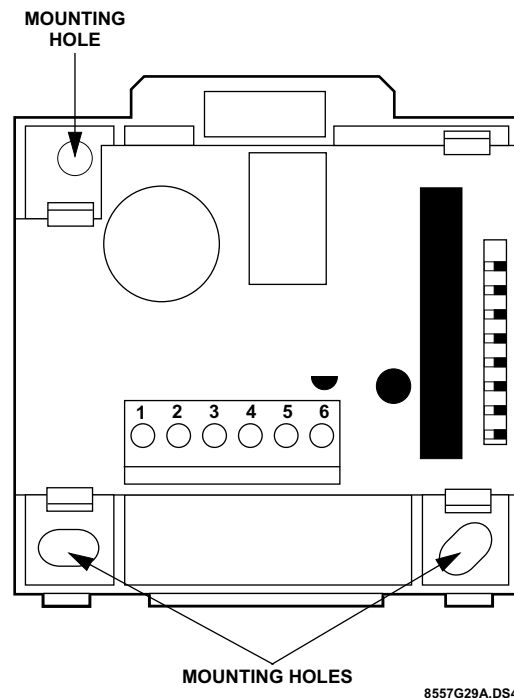

Figure 3. Mounting Hole Locations
2. Place the ESM on the wall at the desired location and mark the upper-left and lower-right mounting holes (see Figure 3).